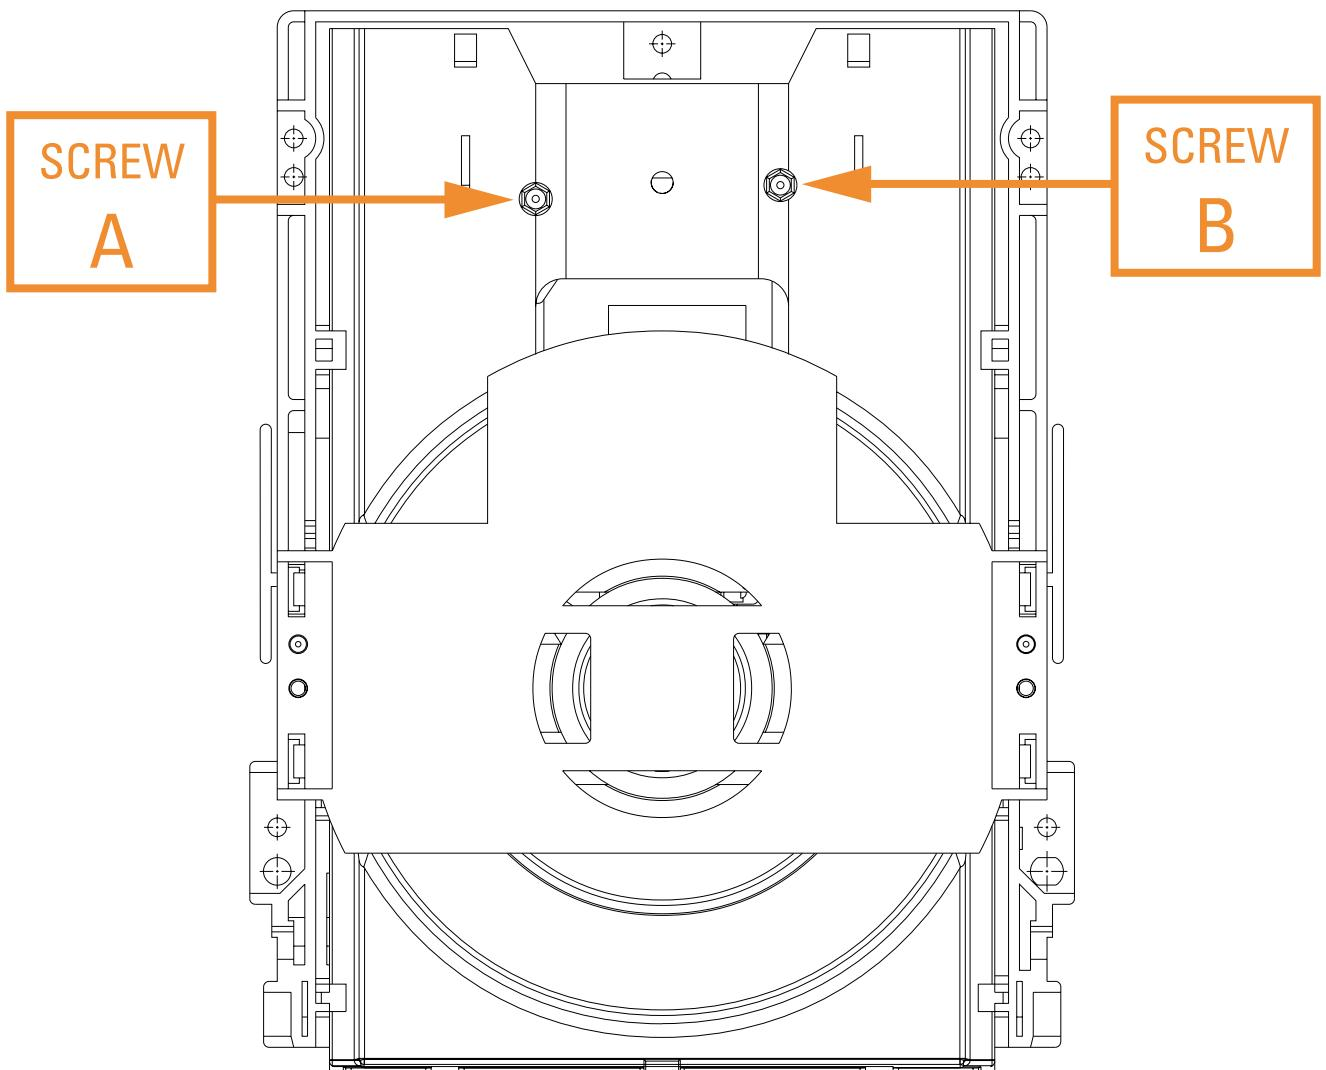

Fig. 3-2 Ass'y Deck (Top Side)
- 3) Adjust the Screws "A" and "B" (See Fig. 3-2) using a Hex screwdriver until you obtain a Flat Waveform and the picture is stable.